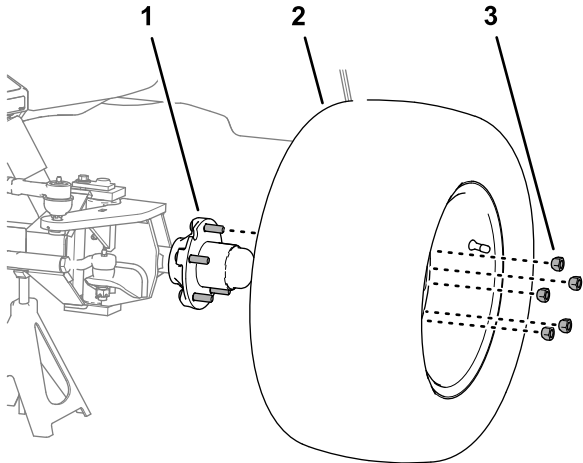

Figure 4
2. Remove the 5 wheel nuts that secure the left tire and wheel to the wheel hub, and remove the wheel from the machine (Figure 4).